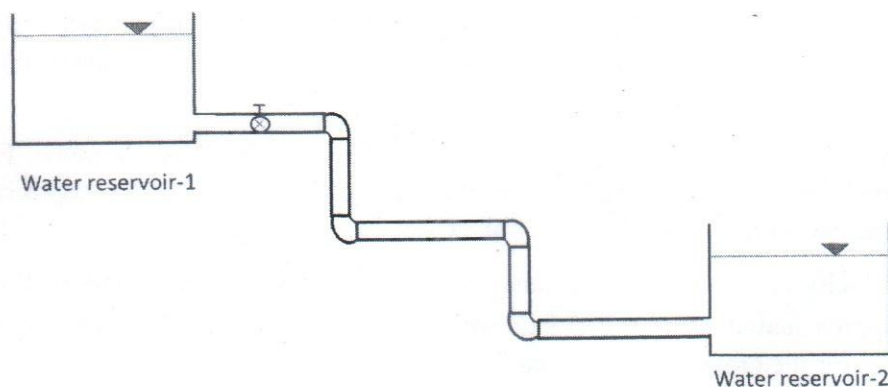

Fig. 2: Pipes in series with different fittings and valves.
- (b) Derive an expression for the velocity profile in a conduit. (08)
- (c) Two reservoirs are connected by 1 Km long commercial pipe of 30cm diameter (Fig. 2). In the pipeline, there are four elbows ($K=0.9$) and a gate valve ($K=5$). The water is flowing at a rate of $0.30 \text{ m}^3/\text{s}$. Find the difference of water levels between the two reservoirs. The frictional loss for the whole pipe is 0.014 . What will be the difference in water level if water reservoir 1 is under pressure of 50 kN/m^2 . (12)